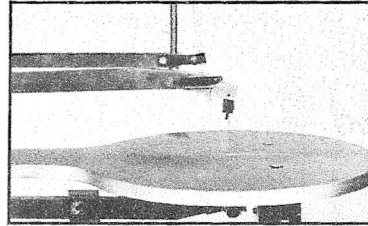

Fig. A-5
**Step #1** — The front cam has two positions: the released position (for changing blades), (see fig. A-5) and the tensioned position (for sawing) (see fig. A-6). The blade tension is adjusted with the cam-over at the back of the saw. Begin blade changing by releasing the front cam (black handle on the left side of the upper arm). By flipping the handle in the complete forward position your blade tension will be released. Loosen the thumb screw on the upper blade holder to release the old sawblade.